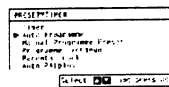

Fig. 3.
- 1 Select Preset/Timer with Δ or ∇ and press OK. The PRESET/TIMER menu appears. (See Fig. 3.)